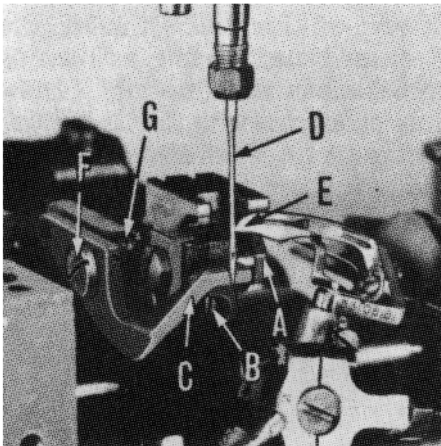

Fig. 10
If feed dog teeth are not parallel with the throat plate, loosen nut (A, Fig. 10) and turn screw (B) clockwise to lower the front teeth, and counterclockwise to raise the front teeth. Retighten nut when feed dog is set properly.
Set the needle guard (C, Fig. 10) horizontally so that it barely contacts the needle (D). It should be set as low as possible, yet have its vertical face remain in contact with the needle until the point of the looper (E), moving to the left, is even with the needle and the latter is ascending on the left side. To move needle